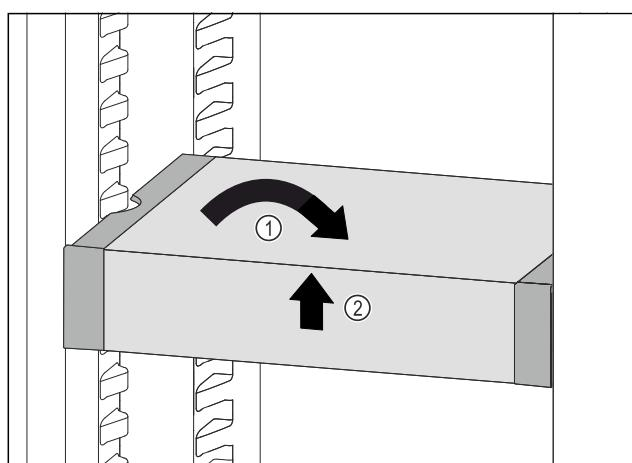

Fig. 122
- ▶ Set VarioSafe straight. Fig. 122 (1)
- ▶ Lift VarioSafe at the front. Fig. 122 (2)